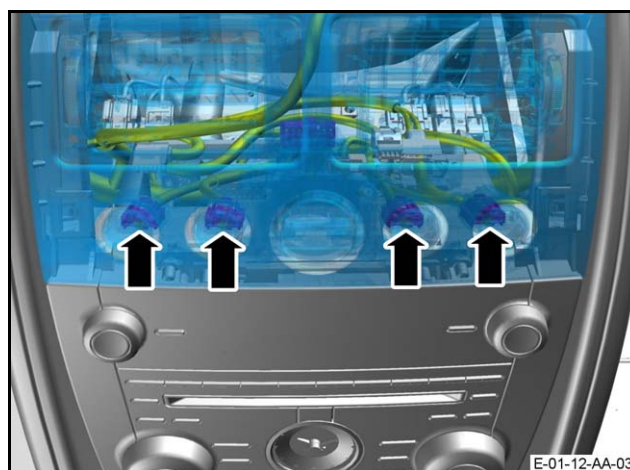

Figure 2
2. Disconnect the electrical connectors from each of the four transmission control switches (refer to Figure 2).